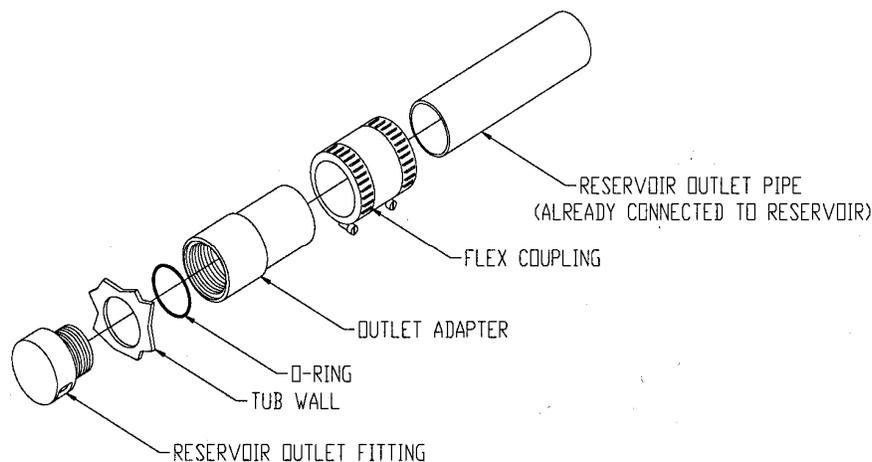

Figure 9
3. Replace the plug with the reservoir outlet fitting, Gasket, and outlet adapter. (These are packed with the reservoir) See figure 9 for assembly order. Ensure that the opening of the outlet fitting is pointed directly down after final tightening.
2. Connect the reservoir outlet pipe to the outlet adapter with the provided flex coupling and tighten. Reference Figure 9.